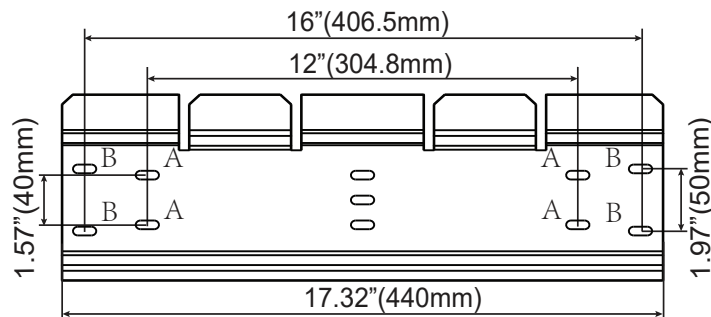

Figure 8: Dimension drawing of mounting plate
1. Mount the mounting plate to the wall with at least 4 screws and anchors (\varnothing 6mm). With 4 screws use 4 holes A or 4 holes B (see Figure 8). You can use the mounting plate as a template for marking the positions of the boreholes. Avoid installation on a non-load bearing wall.
1. Using the mounting plate as a template, mark four screw holes onto the wall. Use the four holes that are indicated for this purpose in the figure 8. Make sure the holes are in the center of each stud before marking the drill location.